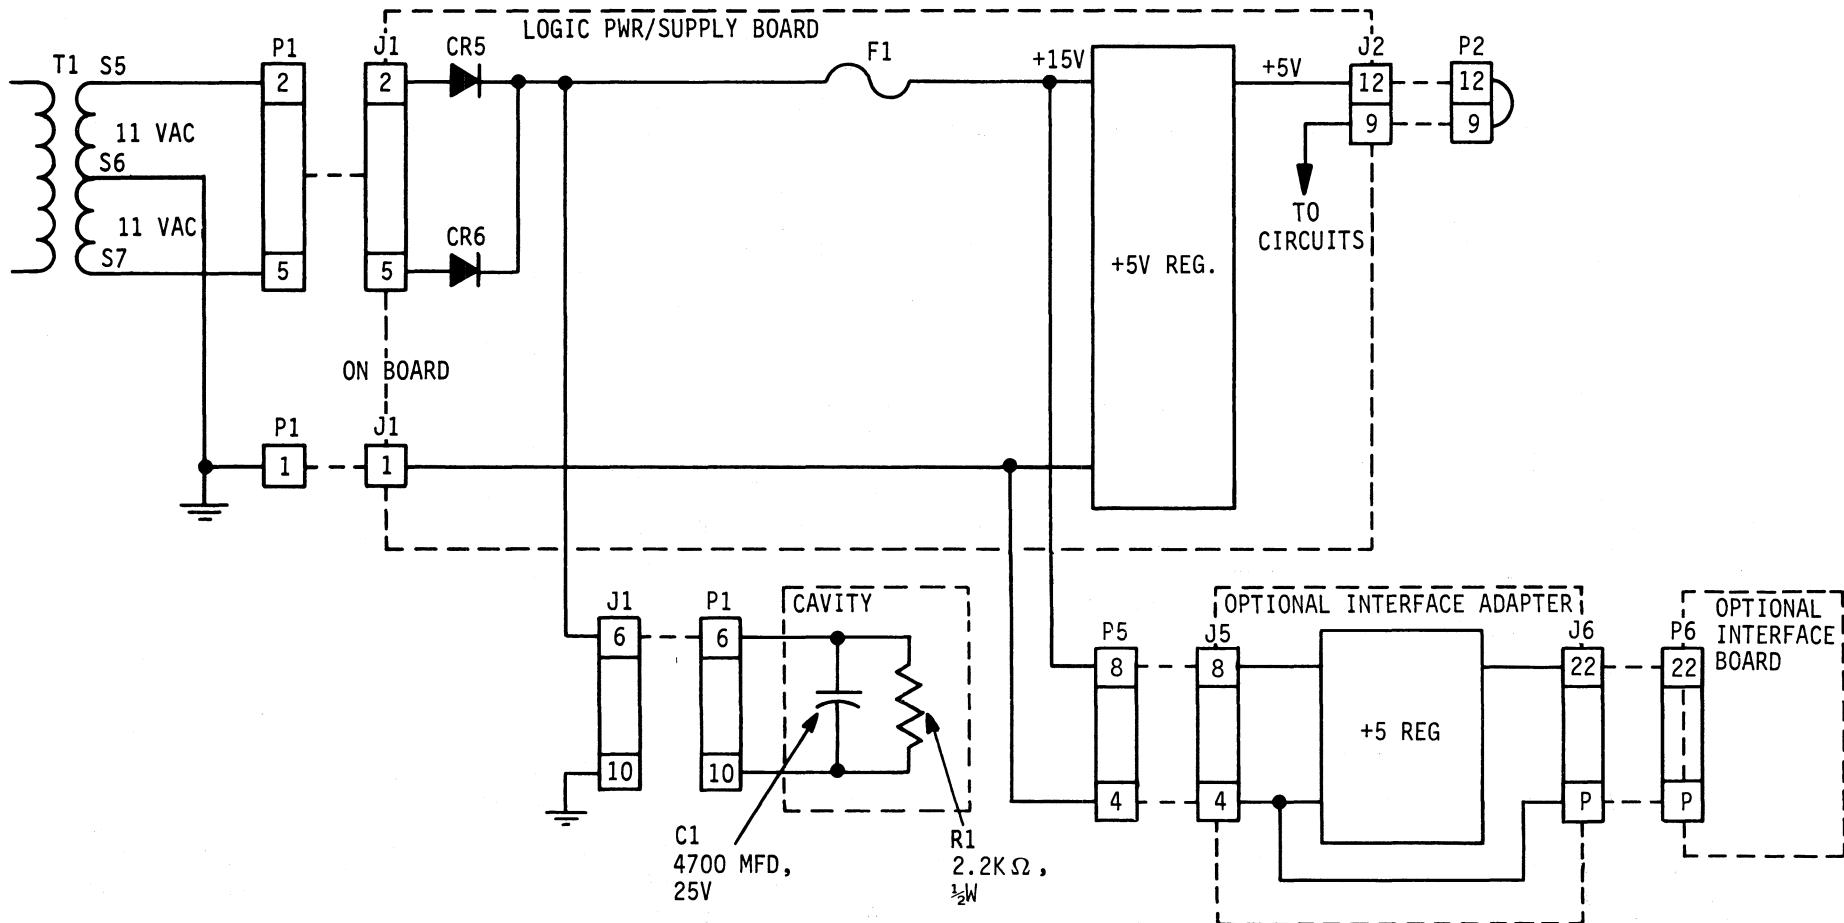

Figure 4-13. +5V REGULATOR INTERCONNECTION DIAGRAM
4.9.1 +5V REGULATOR (Figure 4-13)